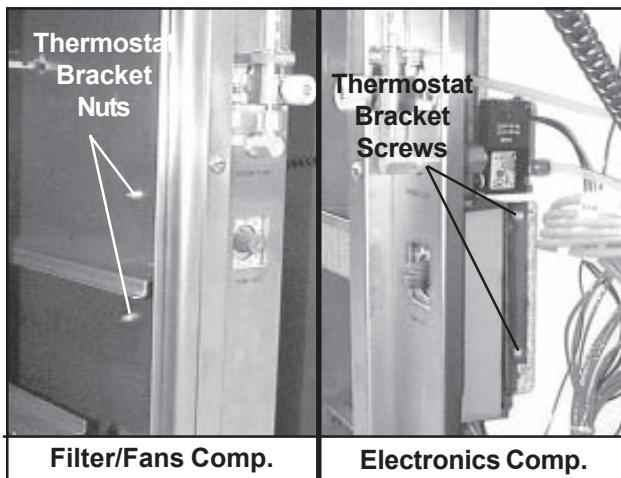

Figure 124. Thermostat Bracket Mounting Screws/Nuts
6. With a Phillips screwdriver and a 11/32-in. wrench remove the two screws/nuts that hold the thermostat bracket to the partition wall (Figure 124).
11. Mount the thermostat and bracket to the partition wall (Figure 124).